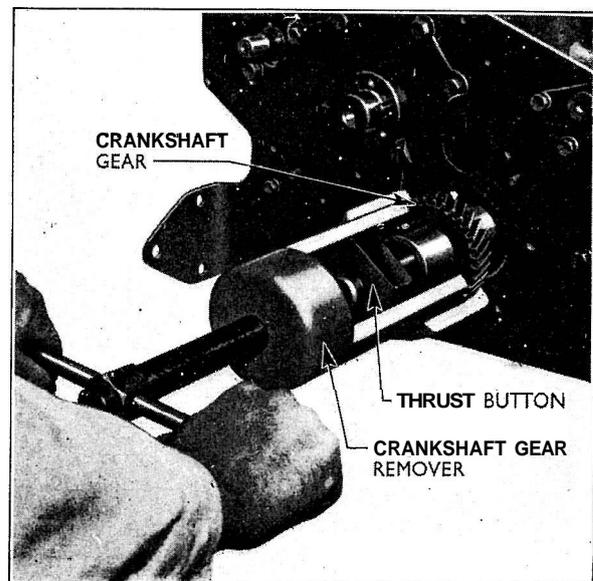

Fig. 16
16. If necessary, remove the crankshaft gear, using the special remover, Tool No. CPT.6040-B as shown in Fig. 16.